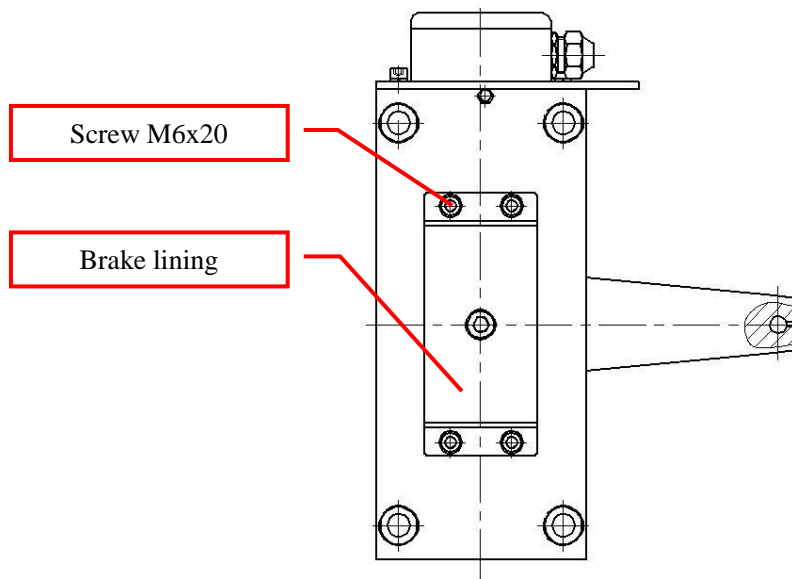

Figure 22: Remove brake lining
3. Remove the screws M6x26 (4) with the hex wrench 4mm, then remove the brake lining. See Figure 22.